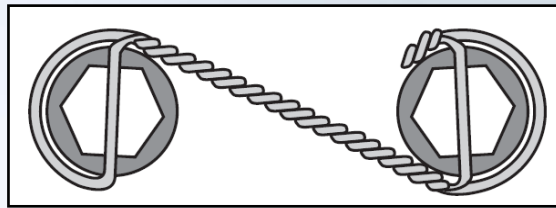

Figure 7: Safety Wiring (Double-Twist, Right-Hand Threads)
1. The cap screws (4) are to be wired in pairs (two wires per assembly) using the double-twist method as shown in Figure 7 below.
2. The safety wire (3) is to be wrapped in such a way that the loosening of one cap screw (4) will result in the tightening of another.